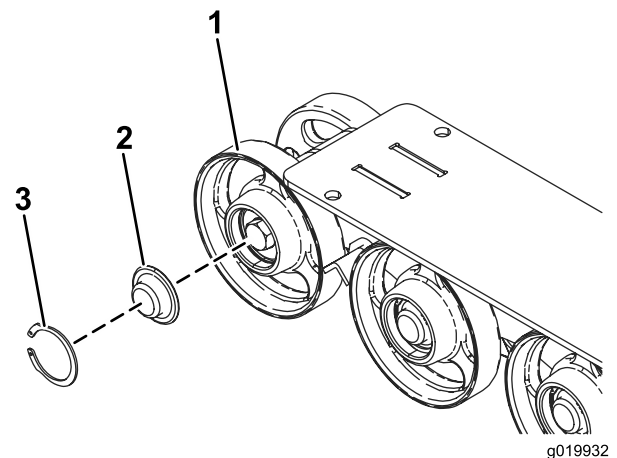

Figure 49
5. Remove the snap ring and cap from a road wheel (Figure 49).
6. Check the grease under the cap and around the gasket (Figure 49). If it is dirty, gritty, or depleted, clean out all the grease, replace the gasket, and add new grease.
8. Place the greased road wheel cap over the bolt head (Figure 49).
9. Secure the road wheel cap with the snap ring (Figure 49).